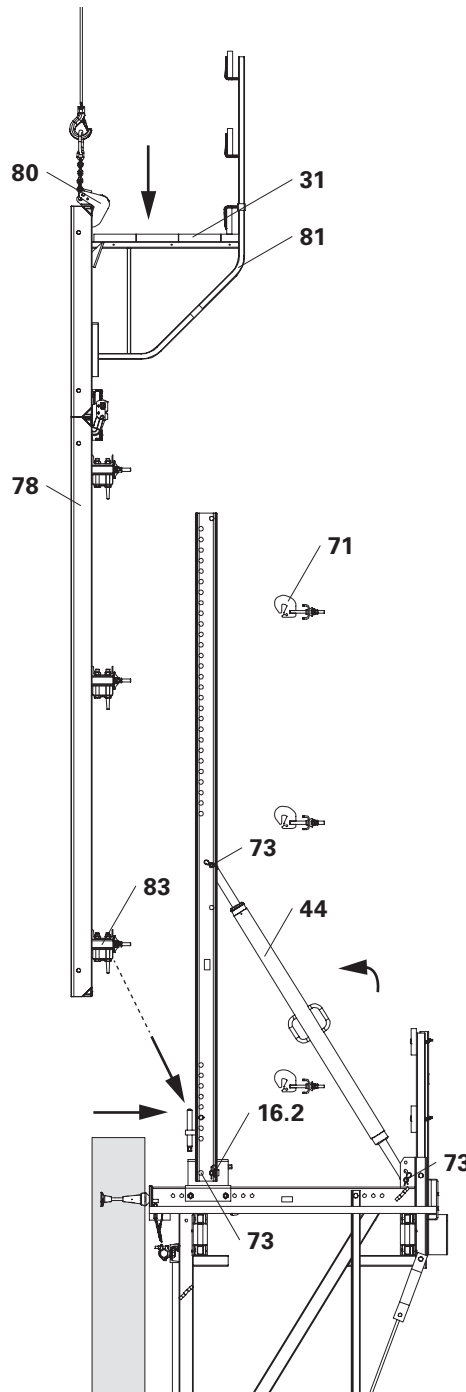

Fig. B2.30
2. Fix Strongback CB to the Adjusting Unit CB by means of Bolts  $\varnothing$  25x180 (73) and Cotter Pins 4/1.
3. Fix Adjustable Brace CB 164-224 (44) to the bracket and Strongback CB using Bolts  $\varnothing$  25x180 (73) and Cotter Pins 4/1.
4. Brace strongbacks laterally. (Fig. B2.30)